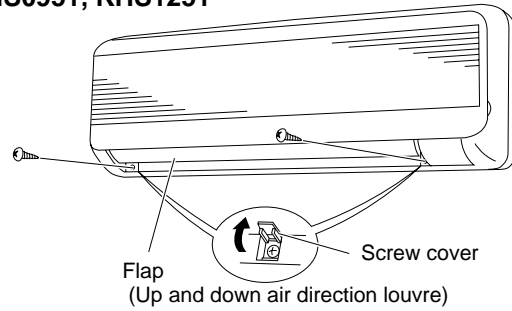

Fig. 16a
- (1) Set the flap in the horizontal position.
- (2) Unscrew the screws. (Fig. 16a or 16b)